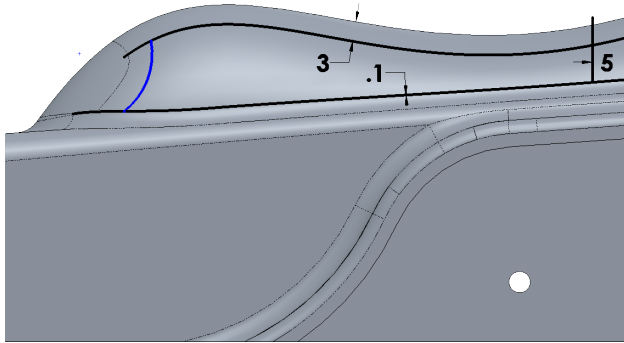
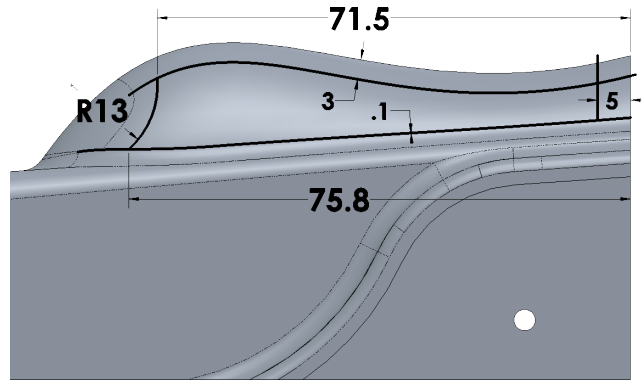

Fig. 146
Fig. 147
Step 8. Click **3 Point Arc**  (S) in the **Arc flyout**  on the Sketch toolbar.
Step 9. Sketch **3 point arc** across offsets at front of the cockpit, **Fig. 146**.
Step 10. Click **Smart Dimension**  (S) on the Sketch toolbar.
Step 11. Add dimensions, **Fig. 147**.